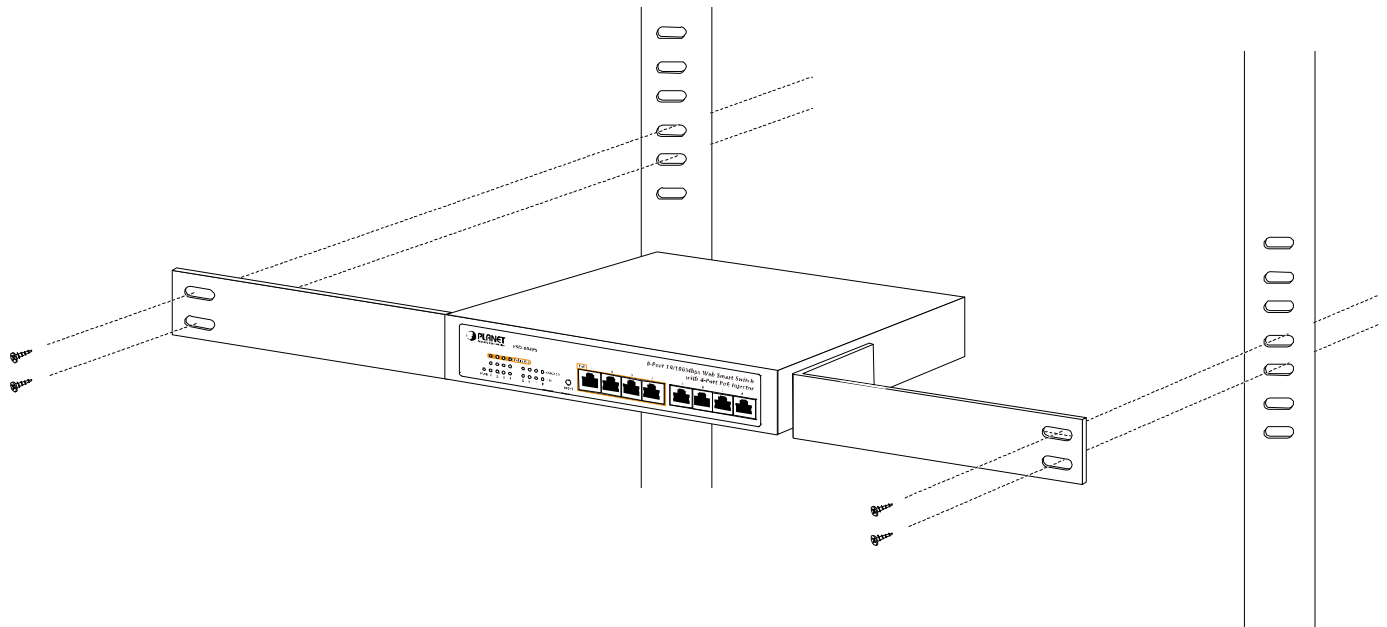

Figure 2-5 Mounting the Switch in a Rack
Step5: After the brackets are attached to the Switch, use suitable screws to securely attach the brackets to the rack, as shown in Figure 2-5.